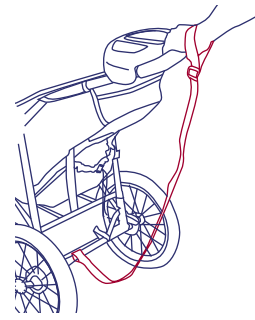
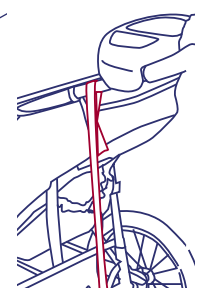

Figure 17.
Figure 18.
1. Always connect the safety strap to either wrist when jogging. This strap will keep the stroller from rolling away in the event that you trip while running. See figure 17. The safety strap must remain connected to the rear lower frame cross member at all times. This location is intended to prevent the stroller being tipped backward in the event that you do fall to the ground. The safety strap includes a Velcro attachment for storage, on the left side of the stroller, when not in use. See figure 18.